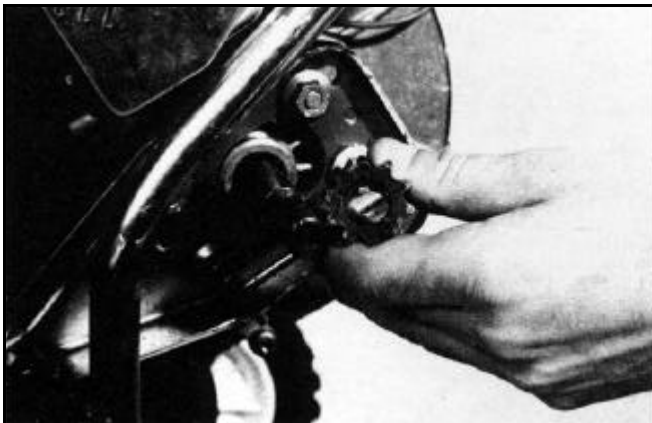

Figure 111 0217-062
5. It will be necessary to align the keyway (slot) of the crankshaft sprocket with the location key on the crankshaft (Figure 111). Should the locating key on the crankshaft show signs of wear, it may be necessary to replace the key.